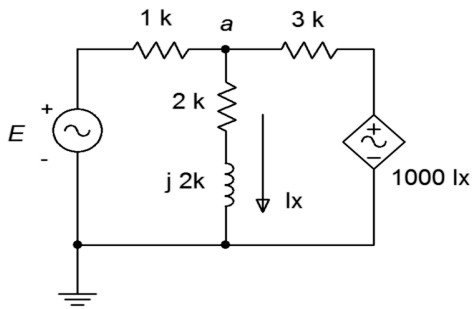

Figure 6.24
54. Determine v_a in the circuit of Figure 6.24 if the source $E = 2\angle 0^\circ$.
55. Given the circuit in Figure 6.24, determine the current flowing through the $1\text{ k}\Omega$ resistor. Assume that $E = 15\angle 45^\circ$.